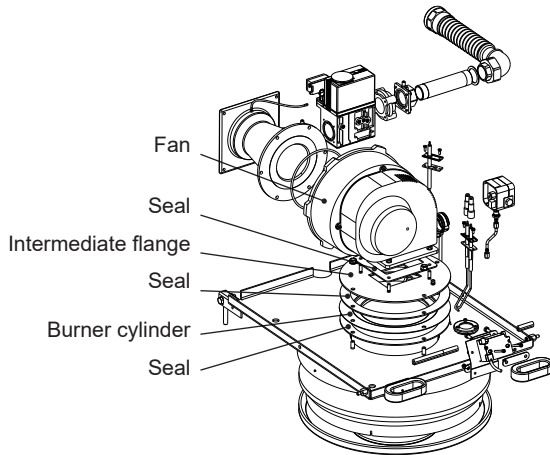

Fig. 50
- Unscrew intermediate flange (Fig. 50).
- Assemble the burner in the reverse order according to Fig. 50.